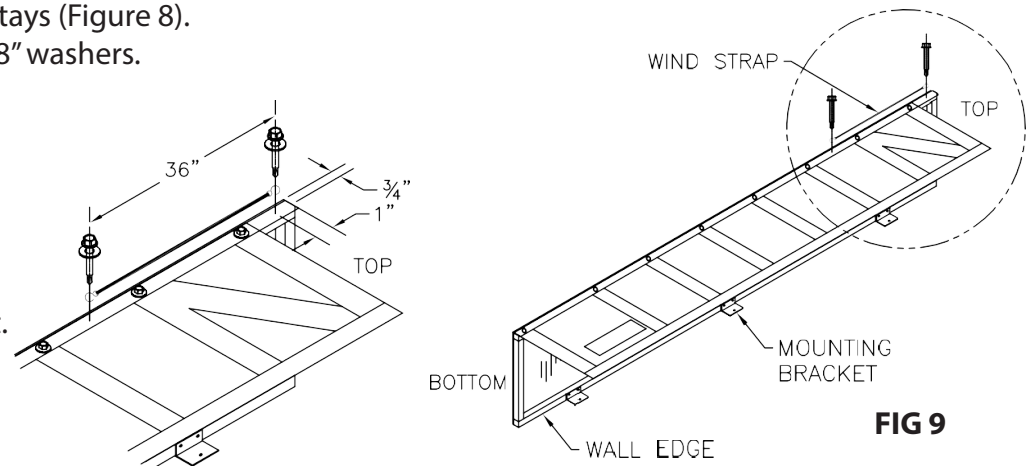

FIG 9
a. Place Wind Strap "S" hook at hole at top of Vertical Frame (Figure 9).